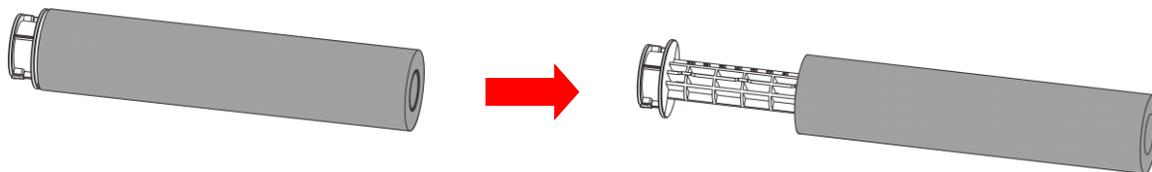

Figure 2-12
2. Take the ribbon supply and ribbon take-up both out from the printer by pushing the rolls to the spring knobs on the right side and releasing from the adjusting knobs (see Figure 2-12).